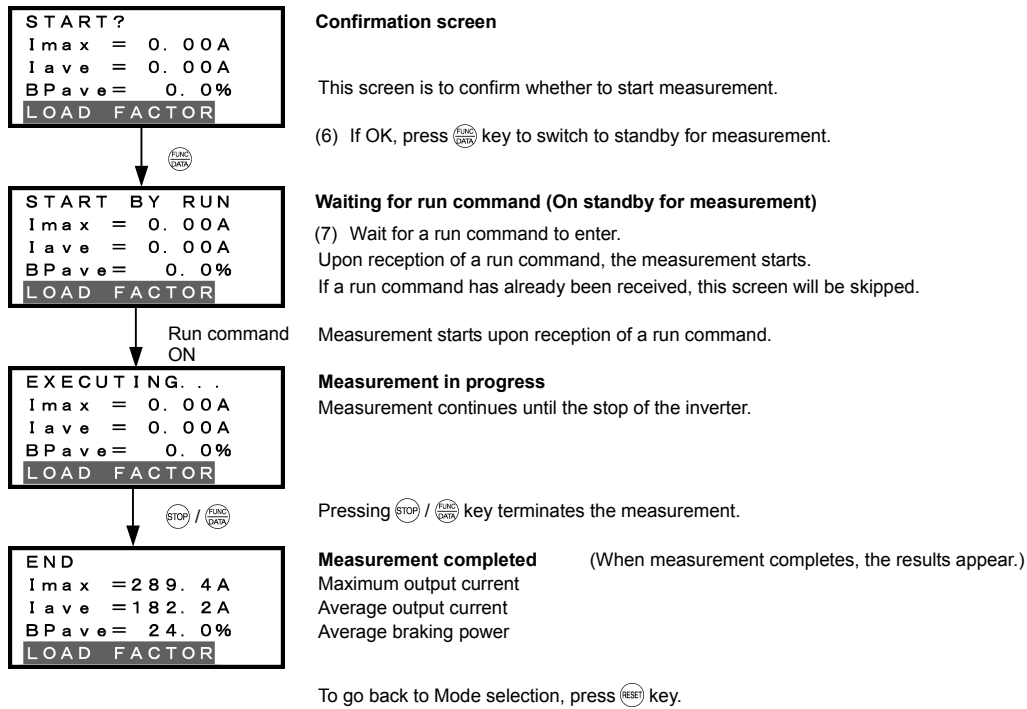

Figure 3.31 Screen Transition for "Load Factor Measurement" (Start-to-stop measurement mode)
- (1) Turn the inverter ON. It automatically enters Running mode. In that mode, press the (PRG) key to switch to Programming mode and display the menu screen.
- (2) Move the pointer → to "9. LOAD FCTR" with the (▲) and (▼) keys.
- (3) Press the (FUNC DATA) key to establish the selected menu and proceed to the measurement mode selection screen.
- (4) Select START→STOP (Start-to-stop measurement mode) with the (▲) and (▼) keys.
- (5) Press the (FUNC DATA) key to establish the selected measurement mode.
- (6) On the confirmation screen, press the (FUNC DATA) key to switch to standby for measurement.
- (7) Wait for a run command to enter. For details, refer to the screen transition in Figure 3.31. Upon receipt of a run command, measurement starts.
- (8) Press the (RESET) key to go back to the mode selection screen.
- (9) Press the (RESET) key again to go back to the menu screen.
Figure 3.31 shows an example of the LCD screen transition starting from Menu #9 "Load Factor Measurement."